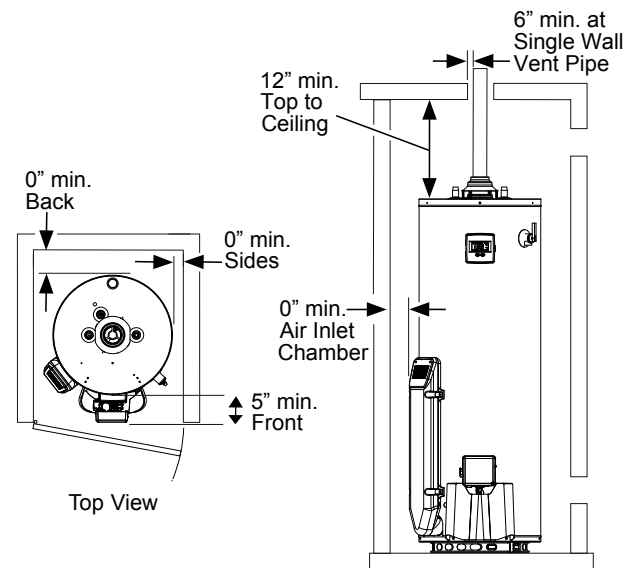

FIGURE 11.
- Figure 11 may be used as a reference guide to locate the specific clearance locations. A minimum of 5 inches of front clearance should be provided for inspection and service.